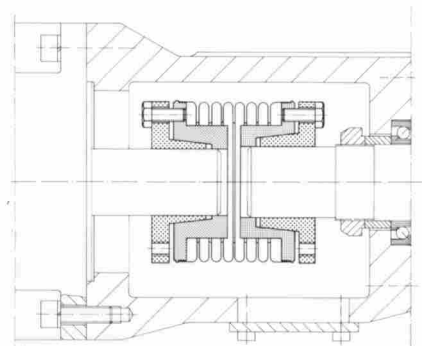

Fig. 8
The output and input shafts must project into the complete length of the taper bushing (2) or clamping hubs (4) respectively (Fig. 8).